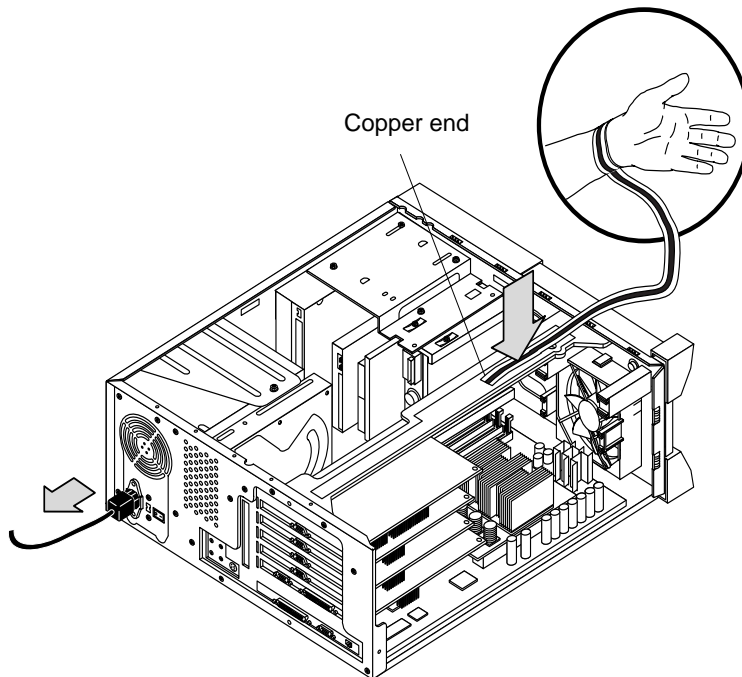

FIGURE 5-7 Attaching the Wrist Strap to the Chassis
3. Attach the copper end of the wrist strap to the chassis (FIGURE 5-7).